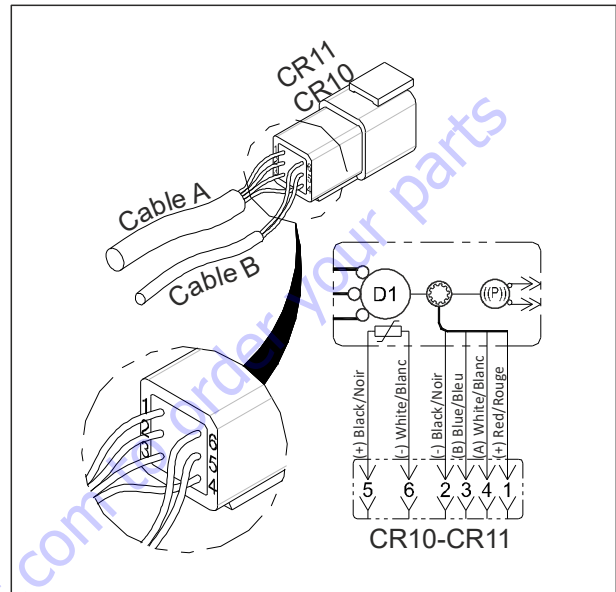

Figure 4-8. Motor Connector
4. Screw staggered the 4 screws (1) of the motor (torque value: 16 N.m ± 2.4 N.m).
5. The new encoder should be equipped with contacts Deutsch JLG P/N 4460917. Re-wire the encoder connector (See Fig. 4-8).